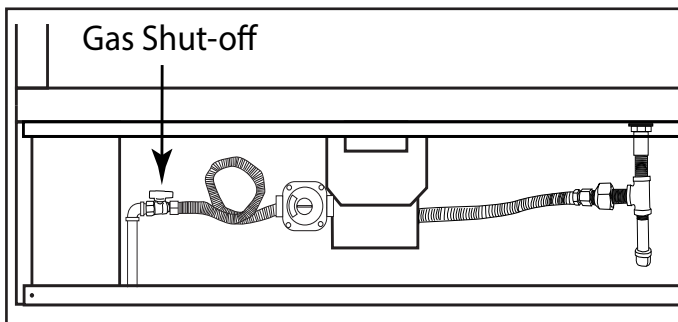

Fig.1 Close up view of inlet gas connection with shut-off valve.
**GAS LINE:** The gas line must have a predetermined location to enable it to be installed. Fig. 1 shows one example of an inlet gas line with a gas shut off at the fireplace. This allows a technician to shut the inlet gas supply OFF and remove the burner for servicing. Ensure you follow the local and state gas codes per your installation.
3. The primary gas shut-off (supplied) will require a  $\frac{1}{2}$ " male flared fitting to enable connection of the stainless steel flex gas line supplied with the fireplace (See Fig. 1 page 6).